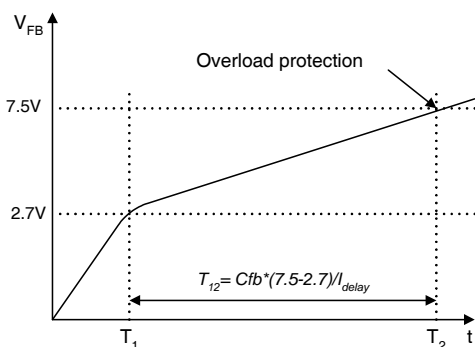

Figure 27. Overload protection
3.2 Overload Protection (OLP): When the load current exceeds a preset level for longer than the pre-determined time, protection circuit should be activated to protect the SMPS. Because of the pulse-by-pulse current limit capability, the maximum peak current through the SMPS is limited, and the maximum input power is restricted with a given input voltage. If the output consumes beyond this maximum power, the output voltage, together with primary side regulation voltage, decrease below the set voltage. This reduces the current through primary side regulation transistor, which increases feedback voltage (V_{fb}). If V_{fb} exceeds 2.7V, D1 is blocked and the 2 μ A current source starts to charge C_{fb} slowly, compared to when the 0.9mA current source charges C_{fb} . In this condition, V_{fb} continues increasing until it reaches 7.5V and the switching operation is terminated at that time, as shown in Figure 27. The delay time for shutdown is the time required to charge C_{fb} from 2.7V to 7.5V with 2 μ A.